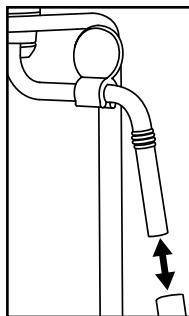

Figure 3
- 1) Place an empty container under the milk frother ⑩.
- 2) Immediately after use, turn the steam control ⑦ to the “+” position and allow the steam to escape for a few seconds.
- 3) Turn the steam control ⑦ off (as far as it will go in the direction “—”), switch the appliance off and remove the plug from the mains power socket.
- 5) Pull the casing of the milk frother ⑩ off (Figure 3) and clean it thoroughly in warm water.
- 7) Push the casing back onto the nozzle (Figure 3).